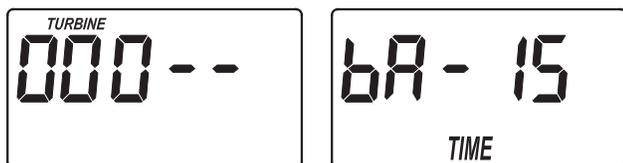

FIG. 24
1. Press and hold for 3 seconds the SELECT button, until the display shows "000 - -", then press the SELECT button again to display the backwash time adjust screen (See Figure 24).